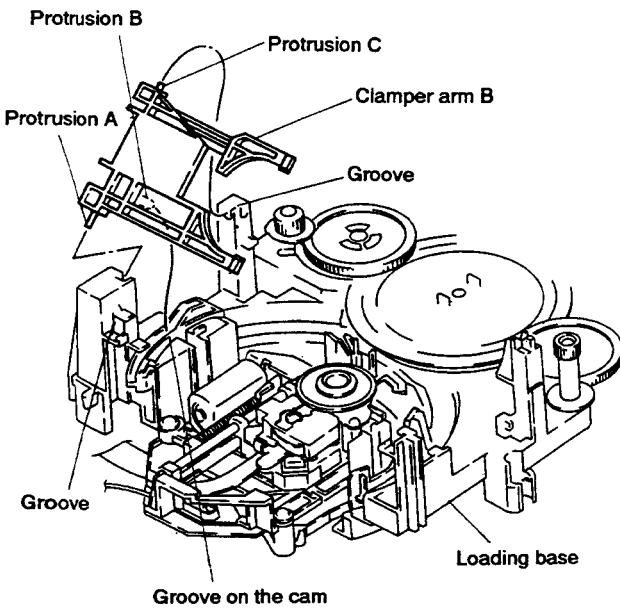

Fig. 2-6
(1) As shown in Fig. 2-6, insert the protrusion A of the clamper arm B into the groove of the loading base, and insert the protrusion C into the groove on the loading base, while the protrusion B being inserted into the groove on the clamper cam.